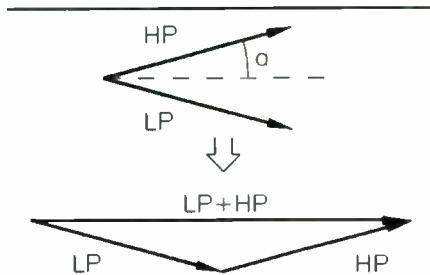
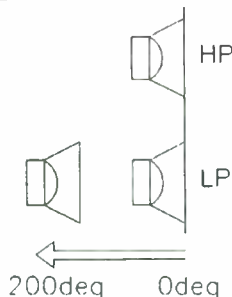

FIGURE 2: Adding filter vectors.
FIGURE 3: Illustrating driver-offset phase shift from 0° to 200°.
To visualize the addition of the outputs from the Low Pass (LP) and the High Pass (HP) filter sections, we use vectors. I have shown in Fig. 2 how the two vectors add. Graphically, one might say that you put the two vectors "head to tail," and then you draw a third vector from the tail to the head of the combined vectors. Mathematically, you would write:
I have tried to illustrate (Fig. 3) what is represented by the 0° to 200° phase shift shown on the x-axis in Figs. 2 through 34 in my article. When the angle is 0°, we have two identical drivers mounted in the same plane, one receiving the LP signal and the other the HP signal. We then move the driver receiving the LP signal back, so that the path to the listener (microphone) gets longer. If we use a crossover frequency of 1kHz, we stop every 0.375 inches (every 10°) to take a reading until we reach 7.5 inches (200°).